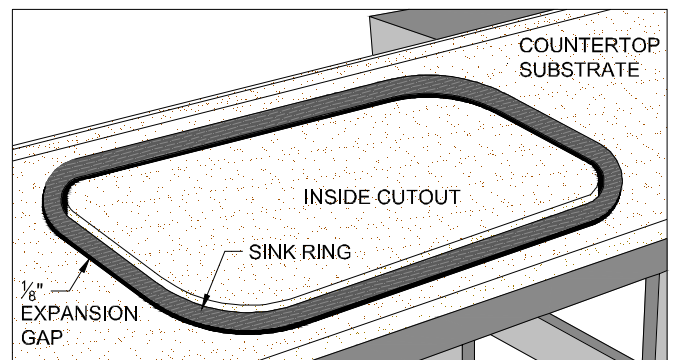

Figure 28A
- Apply the Sink Adhesive to the sink ring (FIG. 28A)